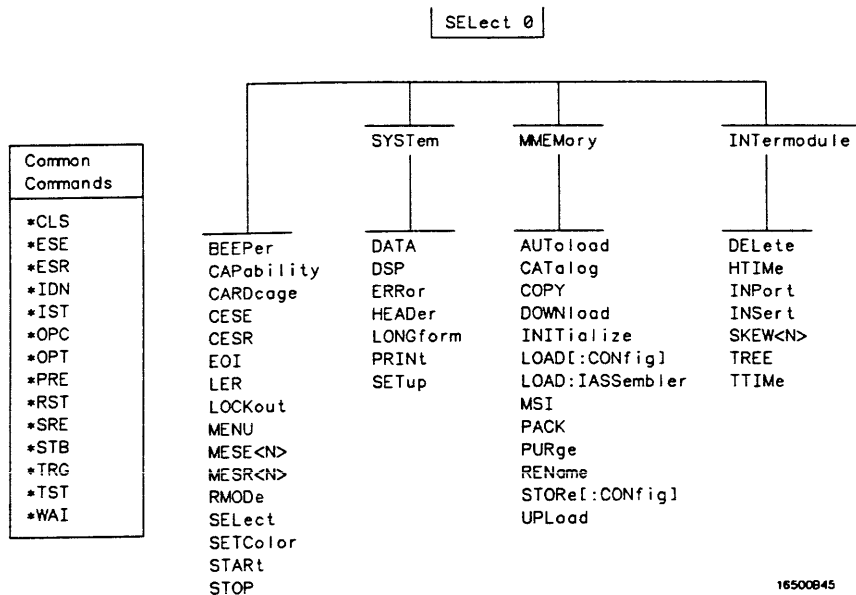

Figure 4-1. The HP 16500A Mainframe Command Tree
The command tree (figure 4-1) shows all commands in the HP 16500A mainframe and the relationship of the commands to each other. You should notice that the common commands are not actually included with the command tree. After a <NL> (linefeed - ASCII decimal 10) has been sent to the instrument, the parser will be set to the "root" of the command tree.
Command headers are created by traversing down the command tree. A legal command header from the command tree in figure 4-1 would be ":MMEM:INITIALIZE." This is referred to as a compound header. A compound header is a header made of two or more mnemonics separated by colons. The mnemonic created contains no spaces. The following rules apply to traversing the tree:
- Executing a subsystem command places you in that subsystem (until a leading colon or a < program message terminator > is found). In the Command Tree, figure 4-1, use the last mnemonic in the compound header as a reference point (for example INITIALIZE). Then find the last colon above that mnemonic (MMEM:), and that is where the parser will be. Any command below that point can be sent within the current program message without sending the mnemonic(s) which appear above them (STORE, etc.).
The HP 16500A programming commands are divided into three types: common commands, mainframe commands, and subsystem commands. A programming command tree is shown in figure 4-1 and a programming command cross-reference is shown in table 4-2.